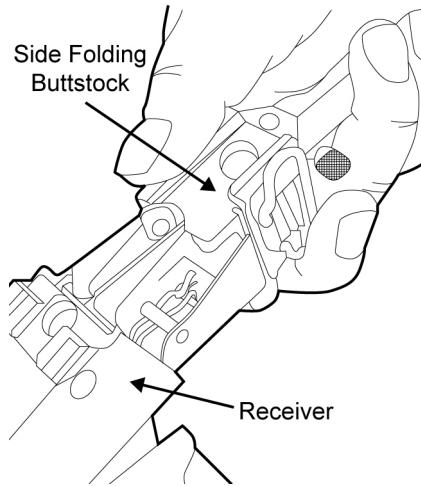

Figure 55. Installing the Side Folding Buttstock into the Rear of the Receiver.
e. Install the side folding buttstock into the rear of the receiver. Refer to Figure 55.